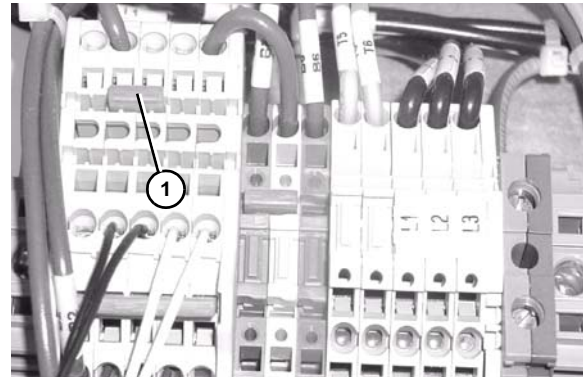

Figure 17
Jumper in the neutral position (Figure 17, item 1). The user selectable port will have no function (factory default).